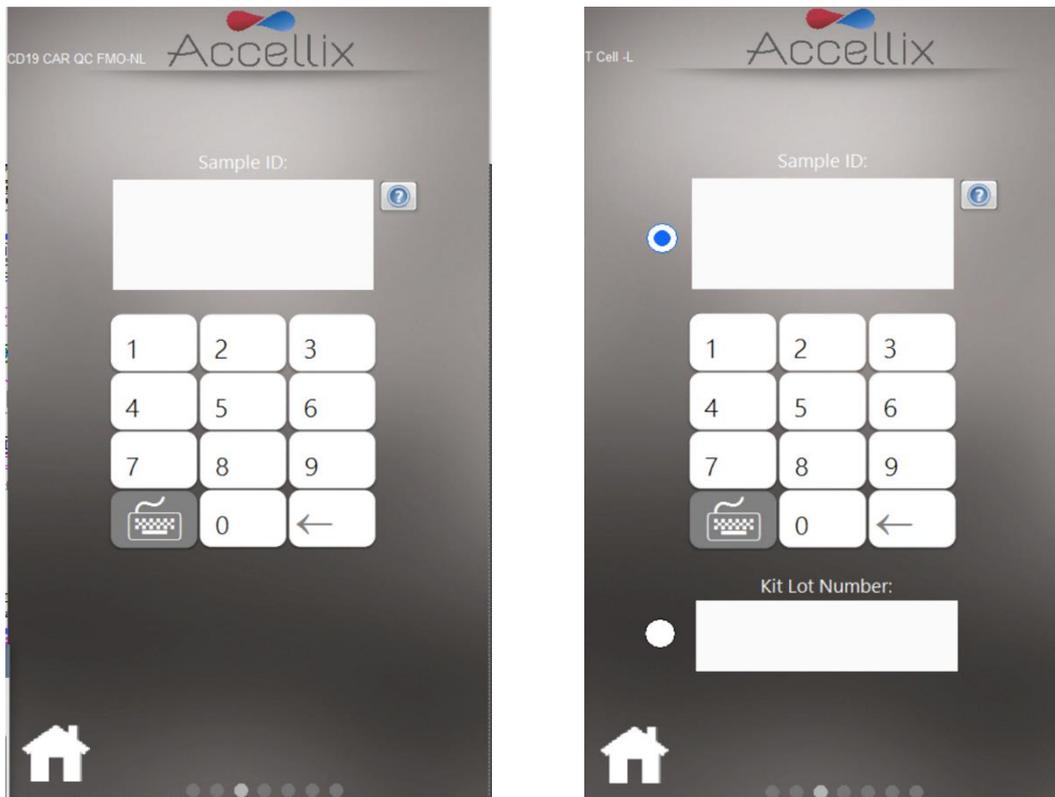

Figure 38: Enter Sample ID screen (with and without Kit Lot Number)
6. On the **Enter Sample ID screen** (Figure 38), enter the Sample ID using the on-screen keypad, an external keyboard or barcode scanner. The Sample ID will then be displayed on all subsequent screens of the assay run.
**Note:** In an optional configuration of the software, the user is also required to enter a Kit Lot Number. (See the image on the right-hand side of Figure 38).